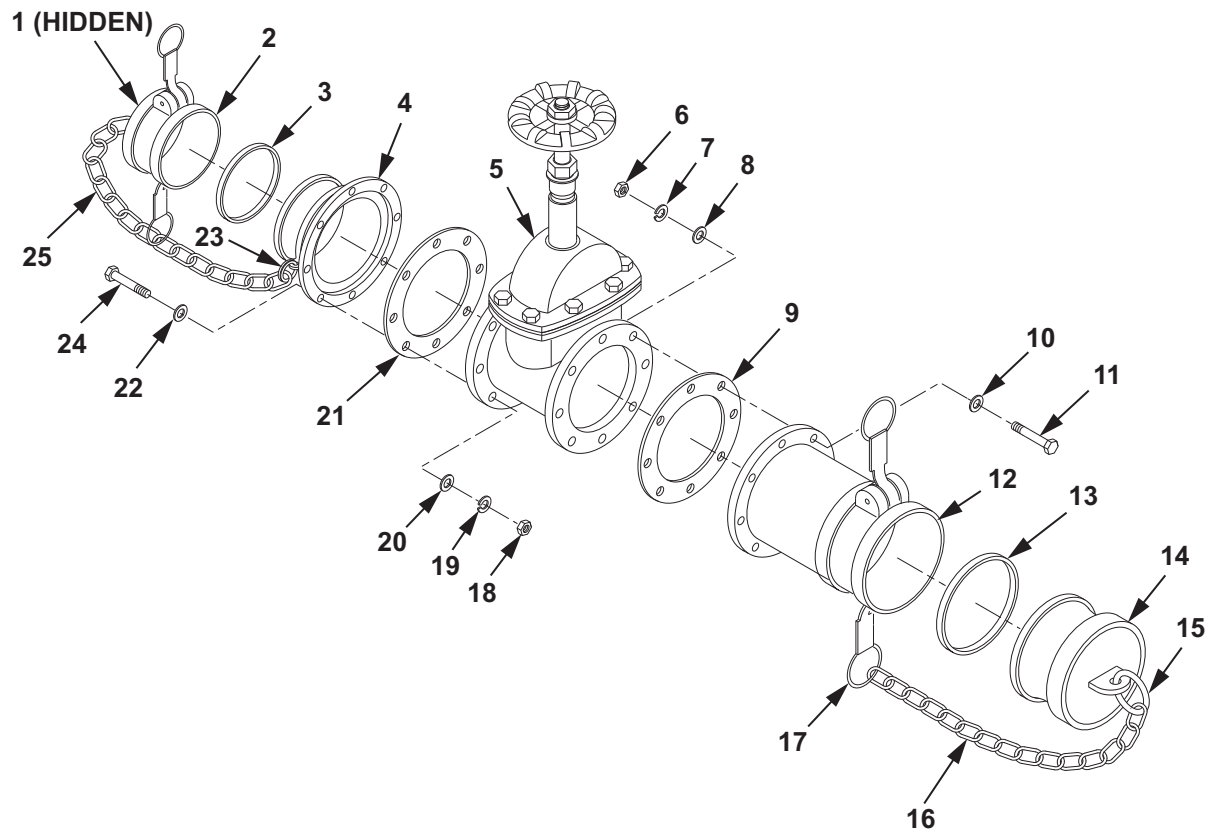

Figure 2. 4 In. Gate Valve Assembly.
2. Install split ring (Figure 2, Item 17) on chain (Figure 2, Item 16).
3. Install split ring (Figure 2, Item 15) on chain (Figure 2, Item 16).
4. Install split ring (Figure 2, Item 15) on quick disconnect dust plug (Figure 2, Item 14).
5. Install split ring (Figure 2, Item 23) on chain (Figure 2, Item 25).
6. Install split ring (Figure 2, Item 23) on coupling (Figure 2, Item 4).
7. Install split ring (Figure 2, Item 1) on chain (Figure 2, Item 25).
8. Install split ring (Figure 2, Item 1) on quick disconnect dust cap (Figure 2, Item 2).
9. Install eight screws (Figure 2, Item 11) and washers (Figure 2, Item 10) through coupling (Figure 2, Item 12), new gasket (Figure 2, Item 9) and gate valve (Figure 2, Item 5) flange.
10. Install eight washers (Figure 2, Item 8), new lockwashers (Figure 2, Item 7) and nuts (Figure 2, Item 6) on screws (Figure 2, Item 11). Hand tighten eight nuts (Figure 2, Item 6).
11. Using torque wrench and adapter, torque eight nuts (Figure 2, Item 6) to 37–43 ft lb (50–58 N•m).
12. Install eight screws (Figure 2, Item 24) and washers (Figure 2, Item 22) through coupling (Figure 2, Item 4), new gasket (Figure 2, Item 21) and gate valve (Figure 2, Item 5) flange.
13. Install eight washers (Figure 2, Item 20), new lockwashers (Figure 2, Item 19) and nuts (Figure 2, Item 18) on screws (Figure 2, Item 7). Hand tighten eight nuts (Figure 2, Item 18).
14. Using torque wrench and adapter, torque eight nuts (Figure 2, Item 18) to 37–43 ft lb (50–58 N•m).
15. Install new gasket (Figure 2, Item 13) and quick disconnect dust plug (Figure 2, Item 14) in coupling (Figure 2, Item 12).
16. Install new gasket (Figure 2, Item 3) and quick disconnect dust cap (Figure 2, Item 2) on coupling (Figure 2, Item 4).